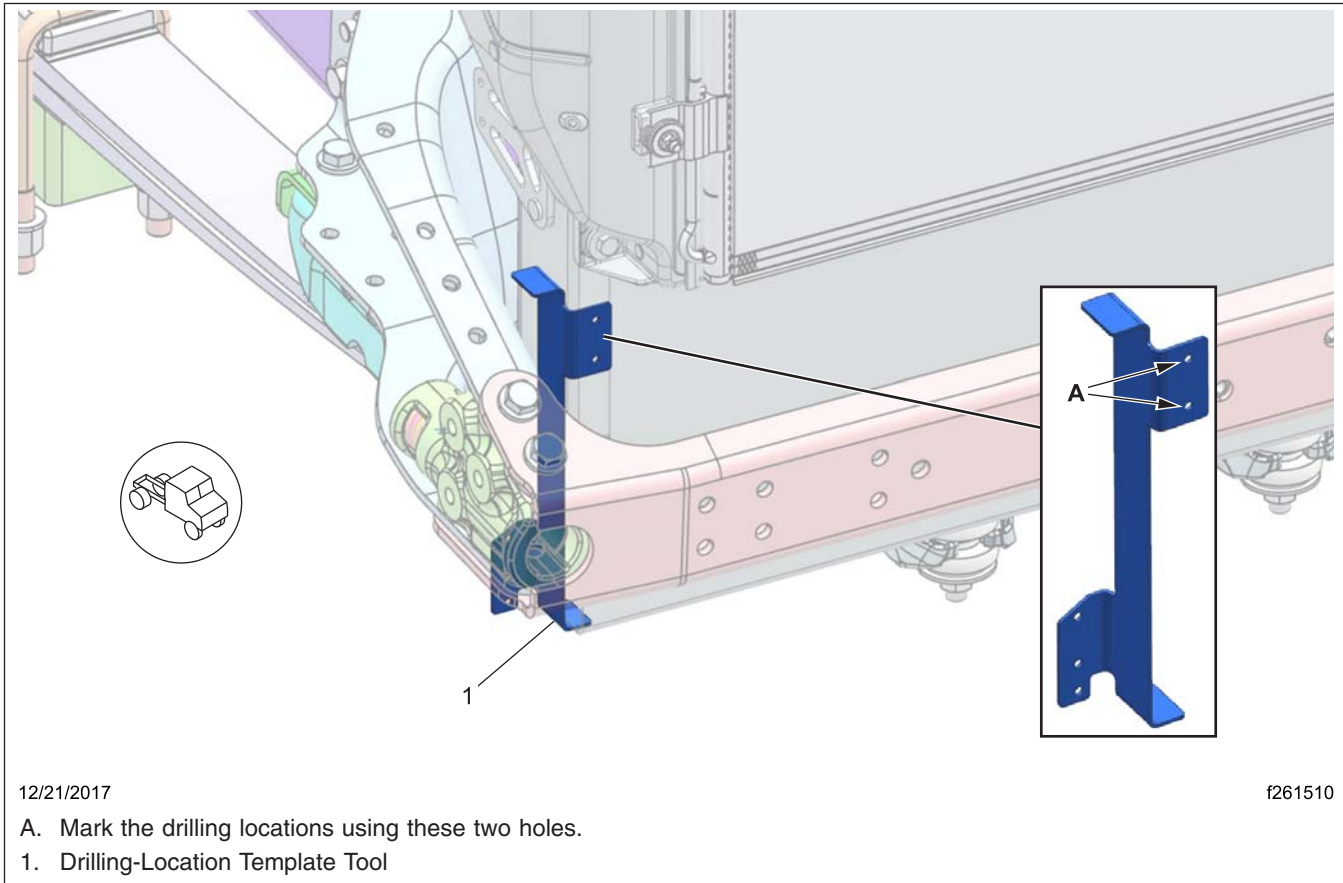

Fig. 3, Drilling Locations on the Right Front of the Radiator Frame
- 9.2 Position the template tool on the bottom right corner of the radiator frame as shown in **Fig. 3**. Mark the two drilling locations on the right front of the radiator frame.